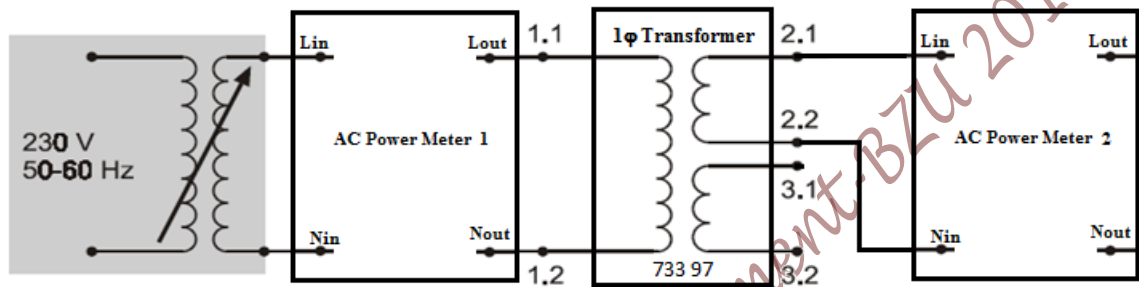

Figure 2.2 Circuit for Measuring Voltage Transformation in a Single-phase Transformer
1. Set up the circuit as shown in Figure 2.2